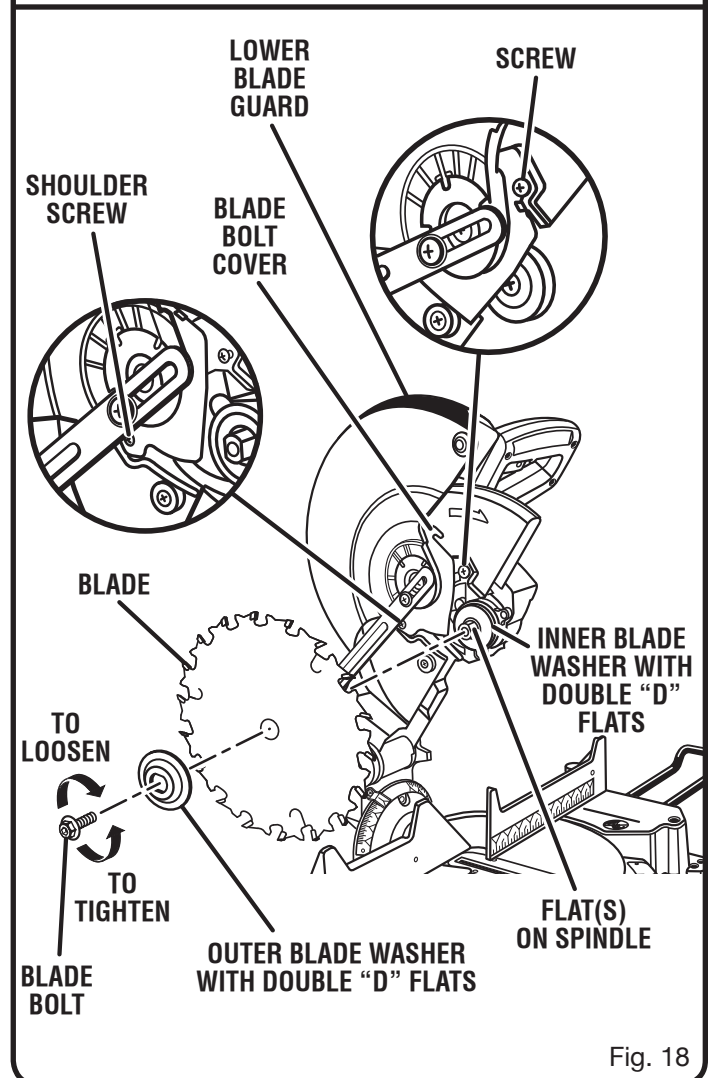

Fig. 18
- Fit saw blade inside lower blade guard and onto spindle. The blade teeth point downward at the front of saw as shown in figure 18.